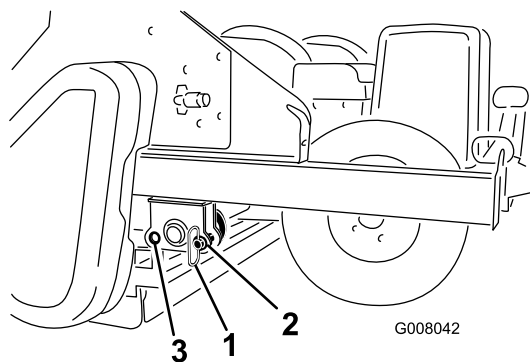

Figure 15
14. Remove the storage pins from the front hole position and insert them into the rear hole position during operation (Figure 15).